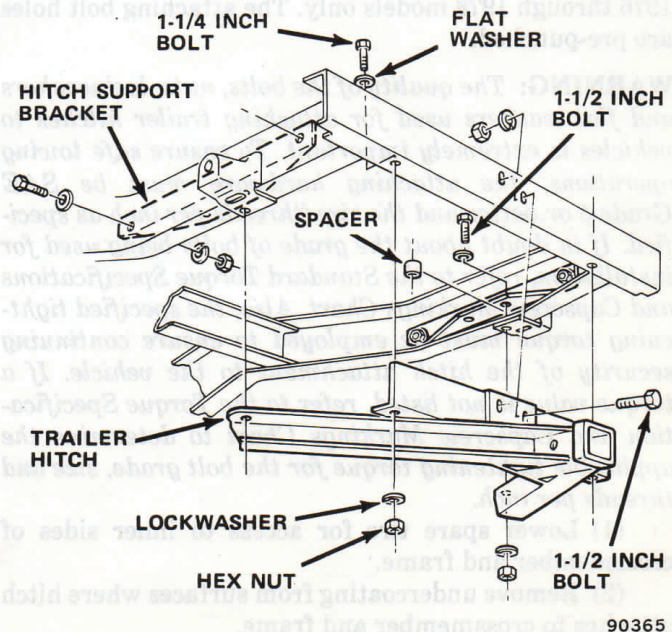

Fig. 8-4 Class III Hitch
(1) Lower spare tire and remove bracket securing bolt.
(2) Remove undercoating from surfaces where hitch, support brackets etc. attach to vehicle frame.
(3) Loosely install left and right side support brackets with 5/8-13 x 1-1/2-inch hex-head bolts, flat washers, lockwashers and hex nuts. Insert spacers between brackets and frame (fig. 8-4).
(4) Position hitch on vehicle and loosely attach to side support brackets and frame with 1/2-13 x 2-1/2-inch hex-head bolts, flat washers, lockwashers and hex nuts (fig. 8-4).
(5) Loosely attach hitch to crossmember with 1/2-13 x 1-1/2-inch and 1-1/3 x 1-1/4-inch (fig. 8-4) hex-head bolts, flat washers, lockwasher and hex nuts.
(6) Center, align hitch and tighten all hex nuts. Tightening torque is 75 foot-pounds (102 N•m) for 1/2-inch bolts and 150 foot-pounds (203 N•m) for 5/8-inch bolts.
(7) Raise spare tire and secure bracket to vehicle.